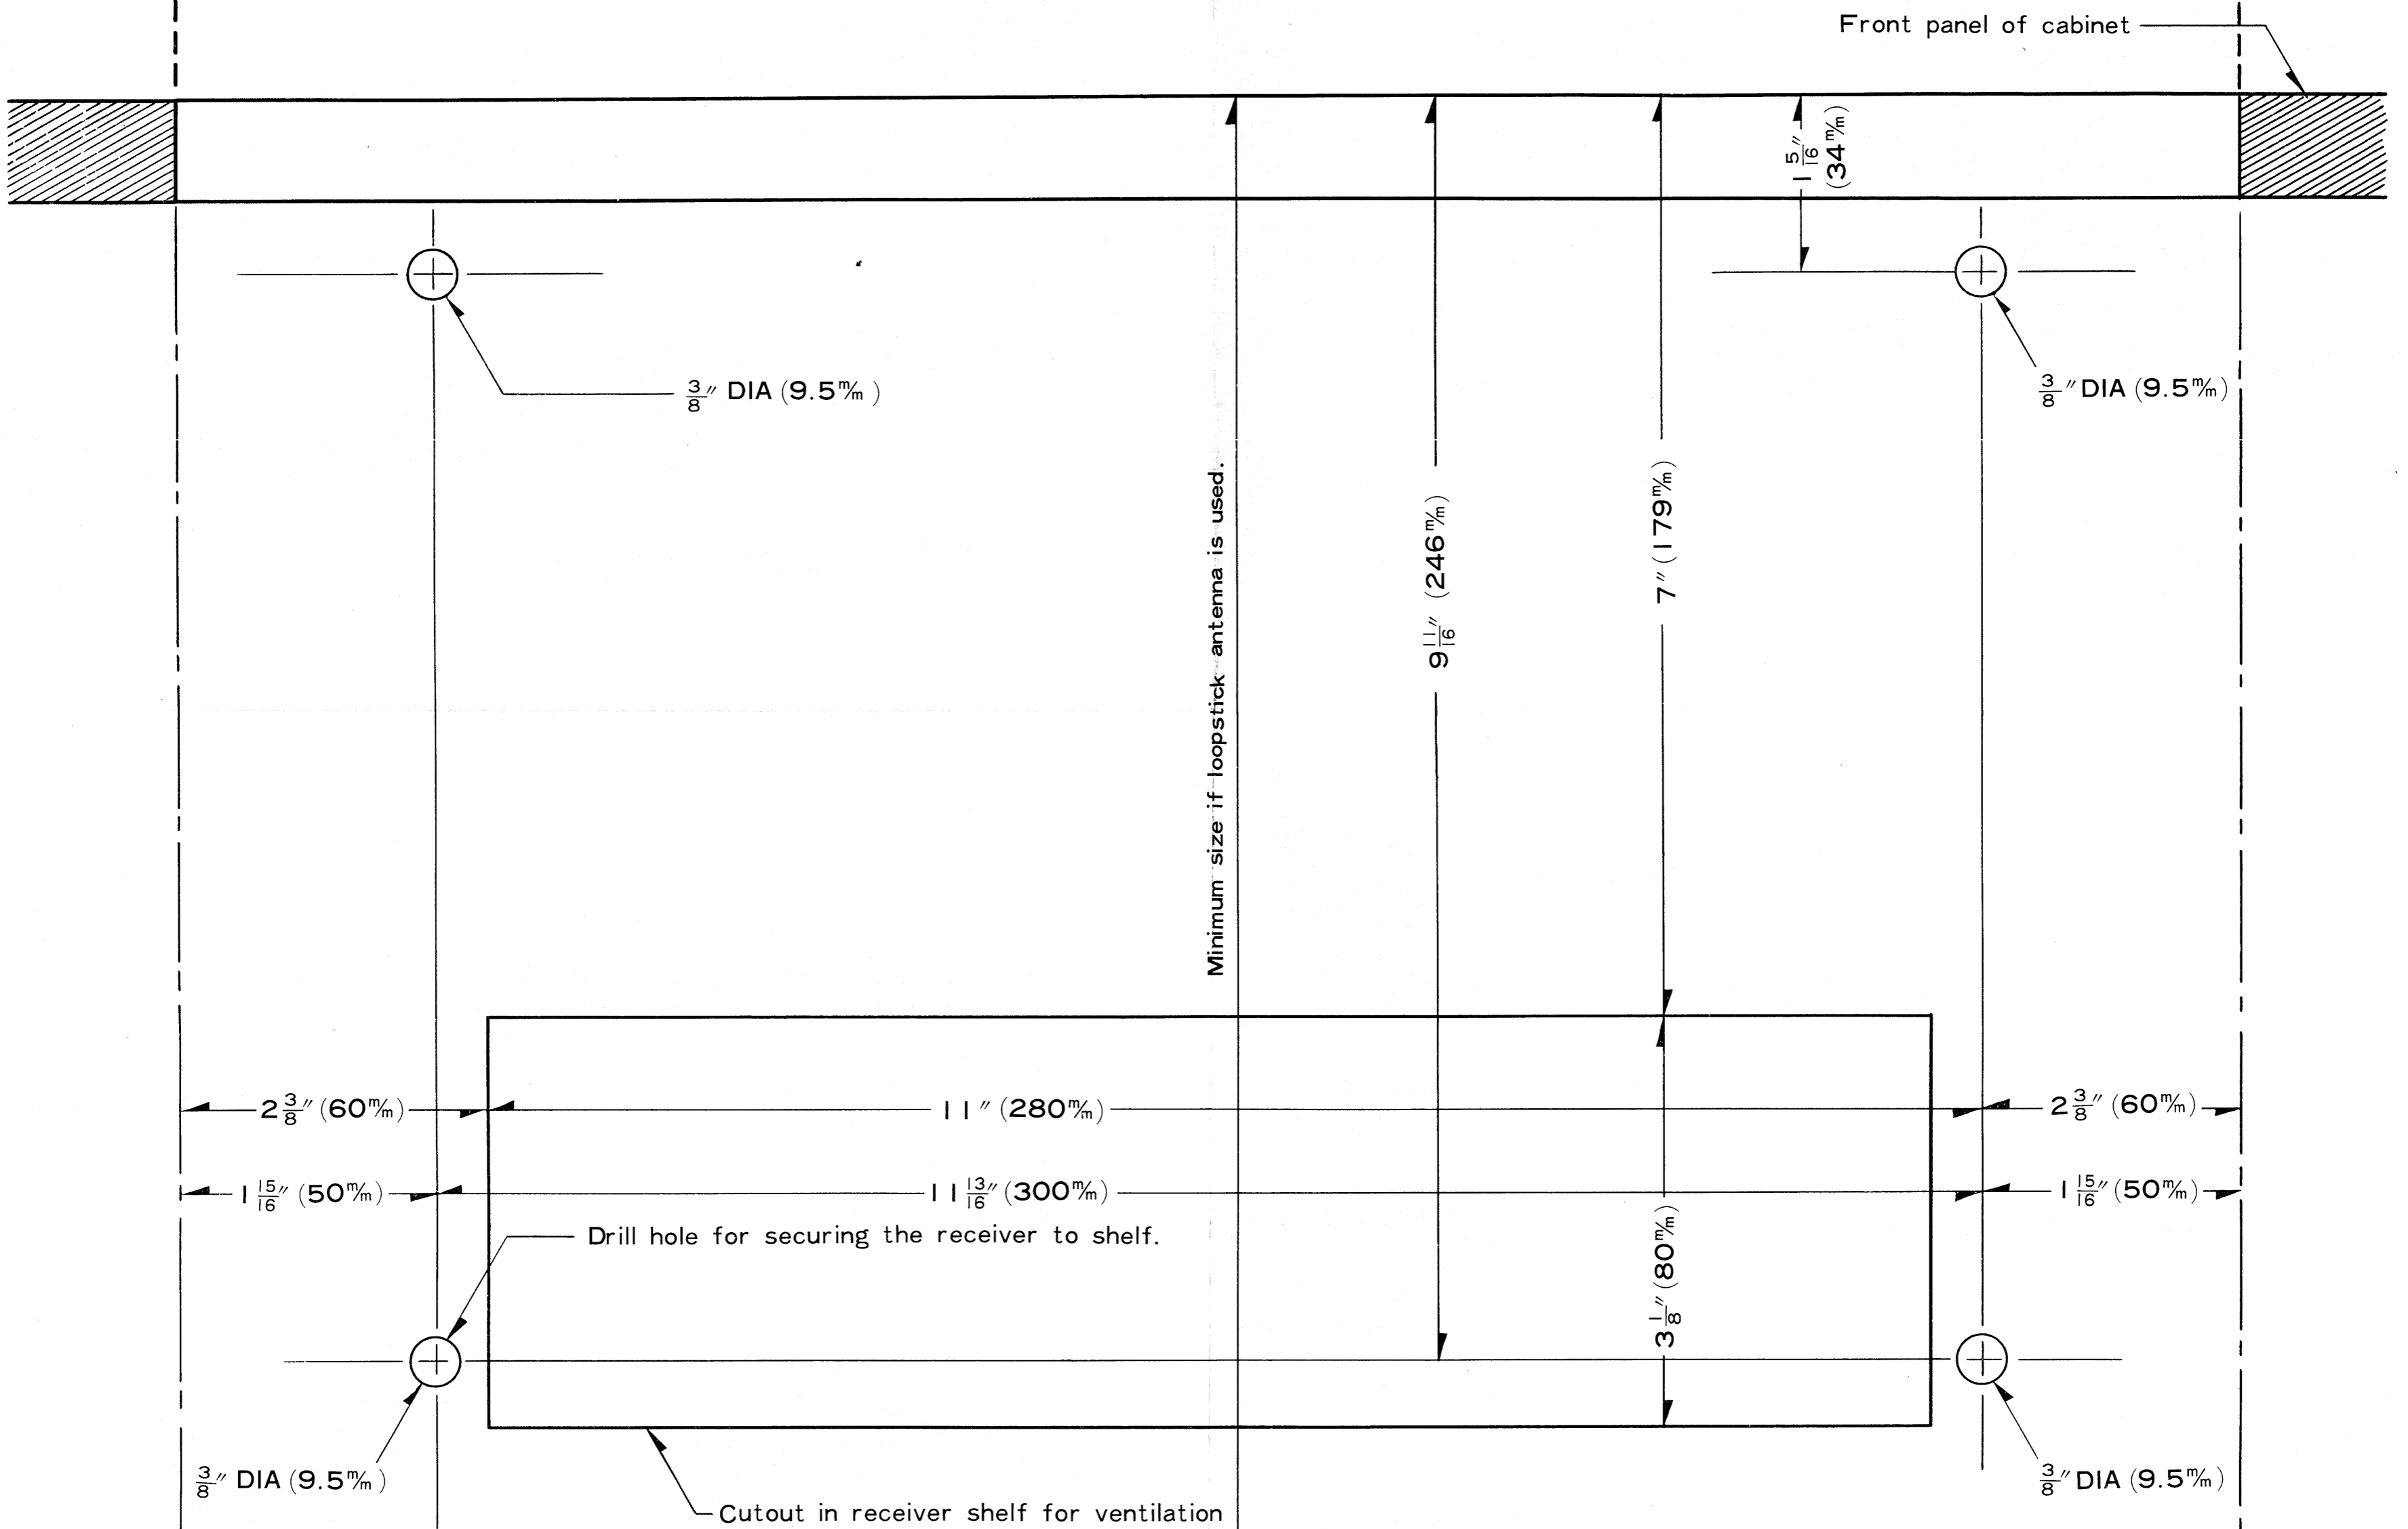

Fig. 2.
4. Drill holes in the receiver shelf as shown in Fig. 2.